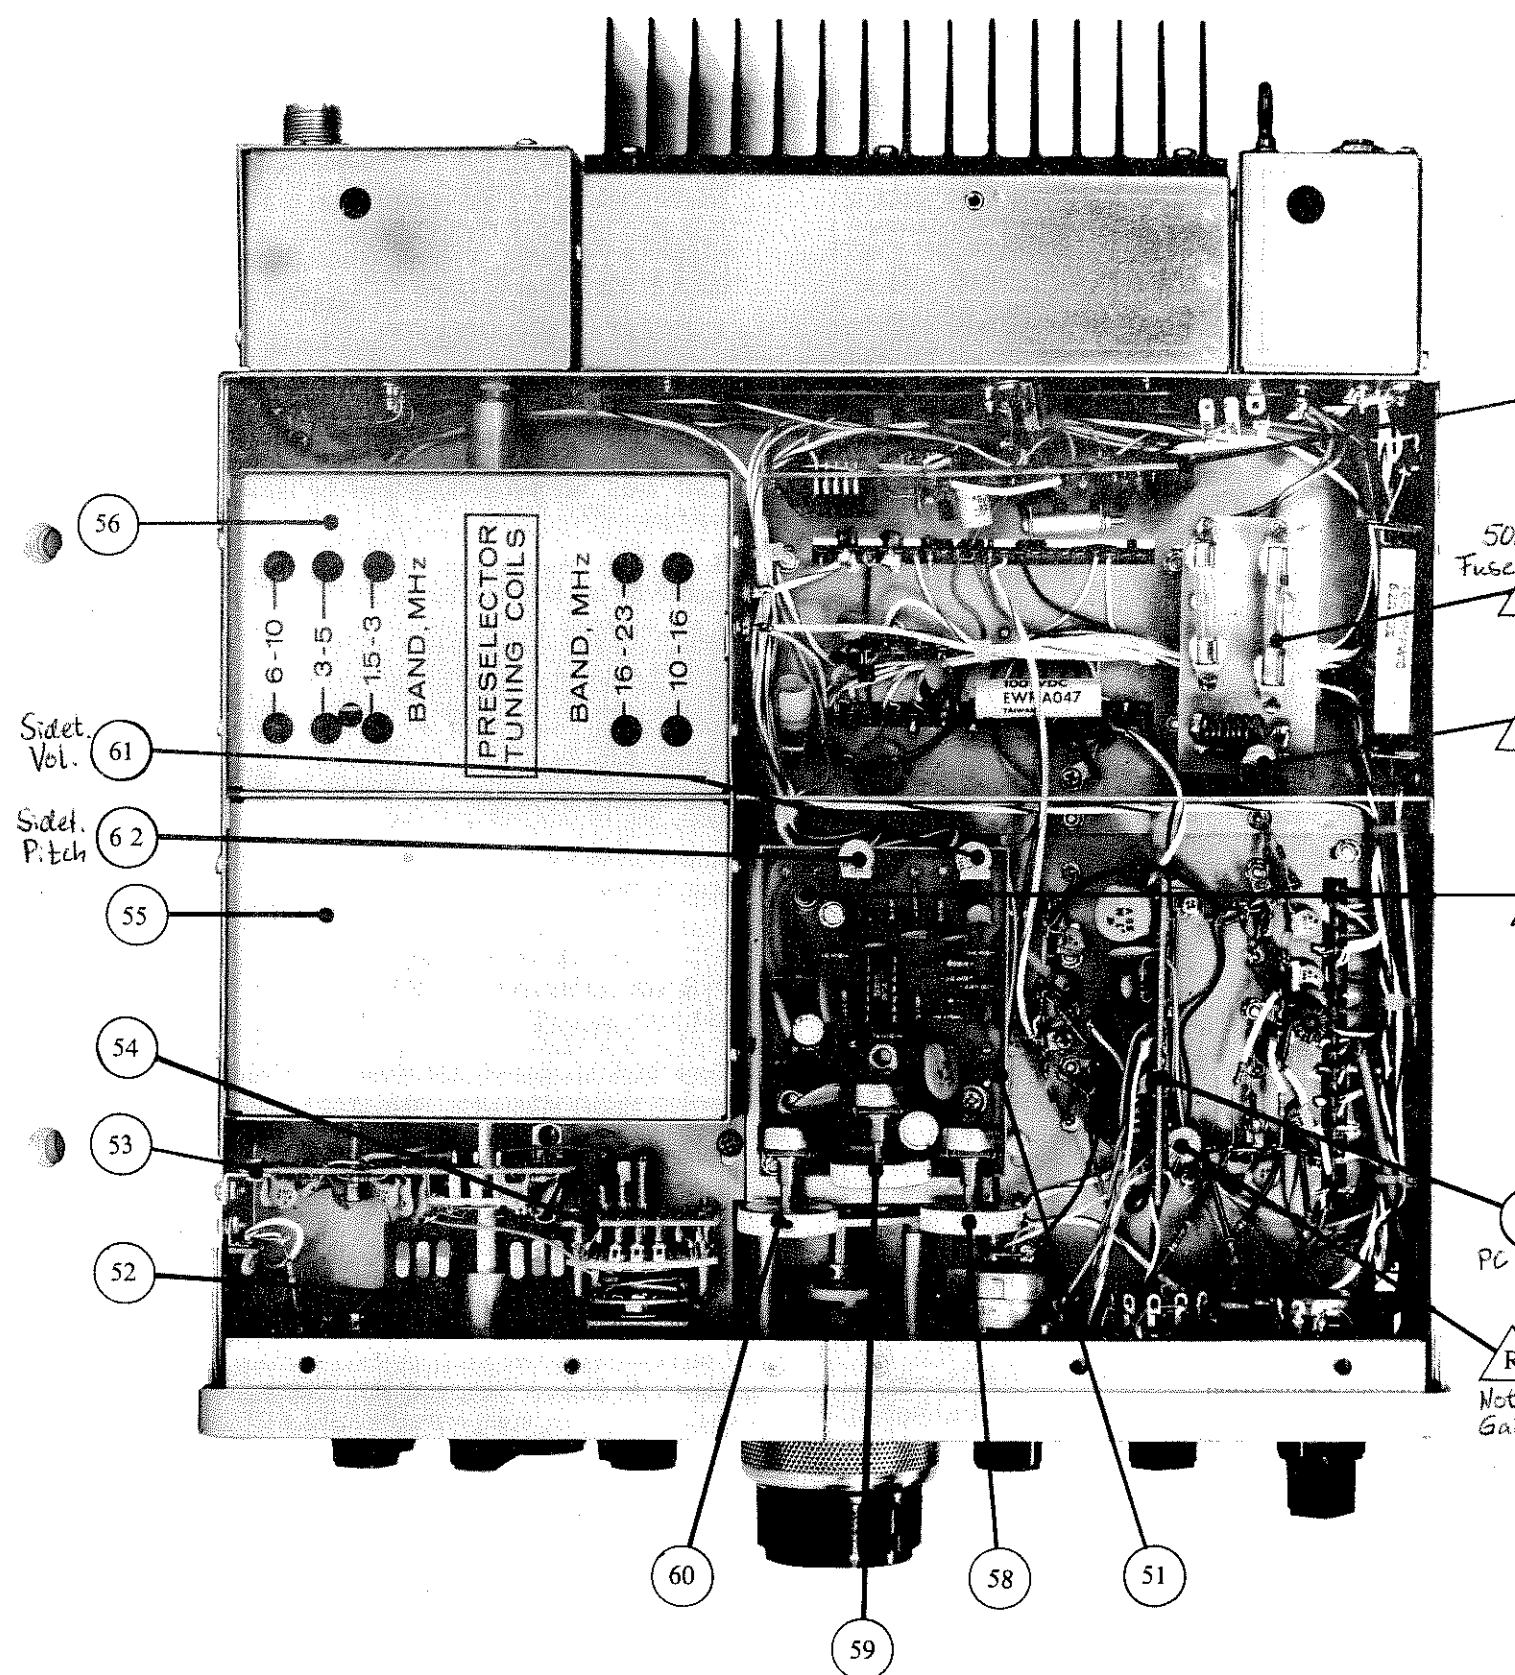

FIGURE 5.2 BOTTOM VIEW, ATLAS MODEL 350-XL
NOTE: Before performing the following procedures, remove the 50 amp fuse (Item 5, Figure 5.2).
1. **Preselector Coils.** (Item 56 , Figure 5.2) Couple R.F. Signal generator into EXT. ANTENNA (Item 35 , Figure 3.4) Phono jack. Set slide switch to EXT. position. Set PRESELECTOR control on front panel to proper band marking on each band. Set generator output to 50 μ v. Tune to each band center, peaking input coils for maximum S-Meter reading (coils
Tune in CAL. signal and note the S-Meter reading. Switch the notcher on, and observe any change in S-Meter reading. If it drops more than one S-Unit, adjust trimmer (Item 44 , Figure 5.2), on PC-350 (Item 50 , Figure 5.2), to increase gain. Then turn the control to verify that it will provide a deep notch of the signal. It should dip to little or no S-Meter reading at both low and high pitch signals.
With SSB-TUNE/CW switch in TUNE/CW position, FILTER switch in LSB and 350-XL tuned to 14.2 MHz, switch TX/RX to TX position, increase MIC Gain or TX DRIVE until transceiver ammeter reads 20 amps. Compare reading with external ammeter and if adjustment is required, locate trimpot (Item Δ , Figure 5.2) and adjust transceiver ammeter to correspond with external ammeter.
Switch transceiver to CW transmit mode. Adjust trimpot (Item 62, Figure 5.2) for desired pitch and trimpot (Item 61, Figure 5.2) for desired volume. Later model 350-XL's have a thumbwheel protruding through the bottom cover for the sidetone volume control.